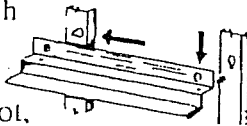

FIGURE 1
- B. Set rear pin of angle in keyhole slot in back of cabinet. Push angle back (see Figure 1).